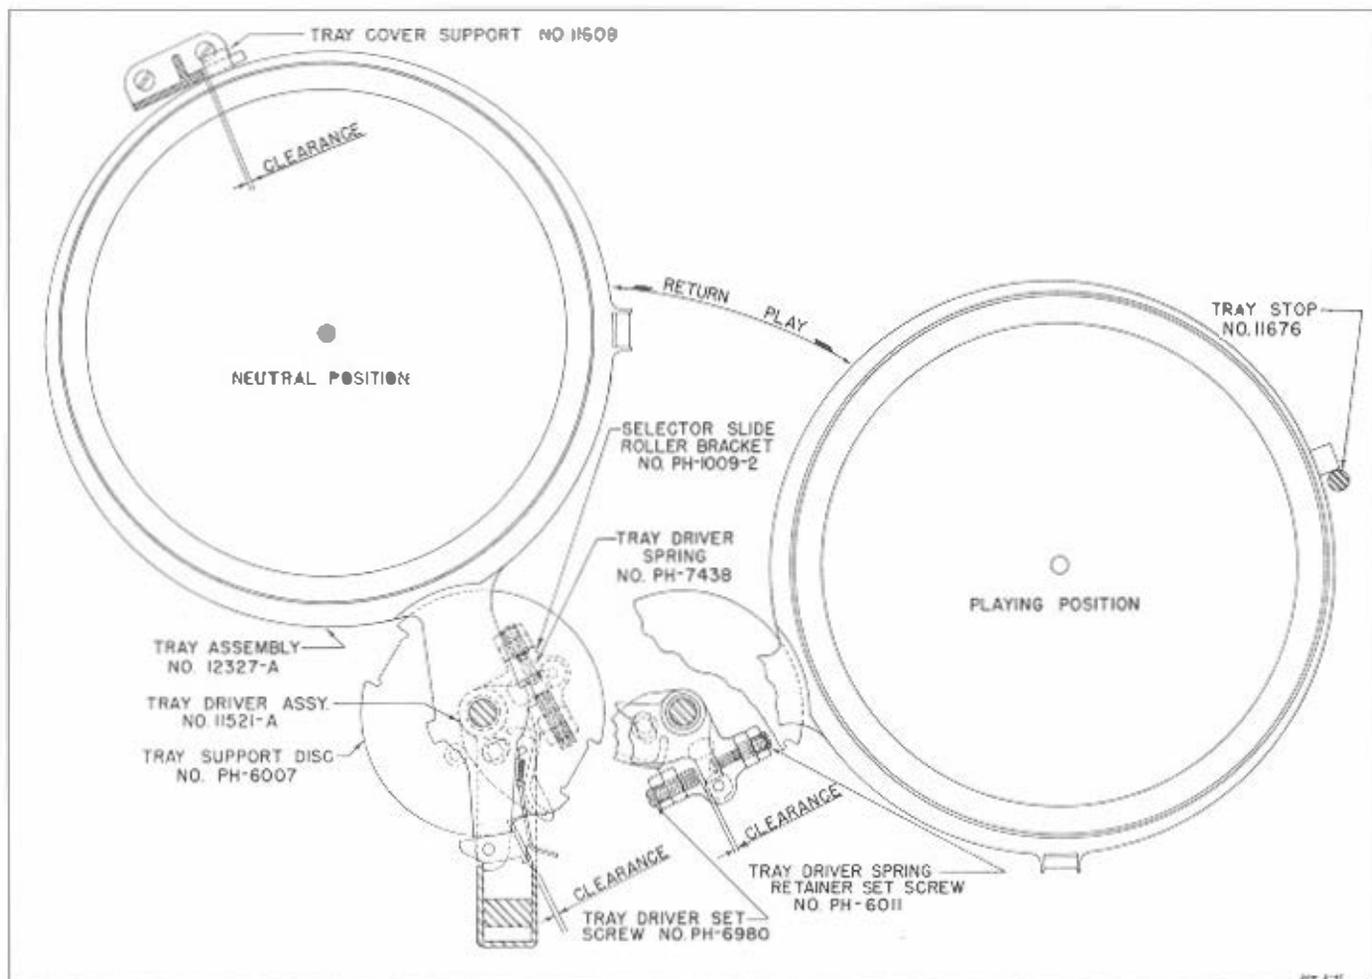

Fig. 19—Tray Stack and Driver (Schematic Drawing)
The record tray and record are moved from the tray stack position to the turntable position, first by the tray unlocking cam contacting the tray dog, which unlatches the tray from tray supporting disc and places the driving lug of the tray dog in the path of the tray release. When the tray driver starts revolving from the action of the selector cam, the tray and record will be brought over to playing position against tray stop No. 11676 (Fig. 19), which is mounted on the mechanism chassis.
The separate unit on the bottom of the tray driver, drives the selected tray and record under the action of the tray driver spring No. PH-7438 (Fig. 19). This spring compensates for any over travel at tray stop position and holds tray assembly in playing position against tray stop under compression action of the tray driver spring.
On the return stroke the separate unit on the bottom of the tray driver, returns the tray to its original position by positive action of the tray driver set screw No. PH-6980 (Fig. 19).
- (a) When the tray and records are in the tray stack position tray driver set screw No. PH-6980 should be adjusted so that there would be a minimum clearance of $\frac{1}{32}$ " between tray assembly and tray cover support as shown in (Fig. 19). When phonograph mechanism is in normal operation the momentum or fast action of the tray closing will tend to bring the tray assembly snug against the tray cover support. Under no circumstances should tray driver set screw be adjusted so
that the tray assembly would be forced against the tray cover support. For if this should be done there would be a bind on the cam roller No. PH-1196 (Fig. 19). The tray release would not seat properly due to a binding action, and the stroke of the tray driver would be shortened effecting bringing tray to playing position.
- (b) The tray dog should be seated in a locking position with a minimum clearance of $\frac{1}{32}$ " to $\frac{1}{16}$ " between tray dog locking notch in tray supporting disc (Fig. 19). It is very important that this adjustment is properly made for when the tray driver is returning the tray assembly to the stack should the tray dog No. PH-6004 fail to drop in the locking notch of the tray support disc on the following operation of the phonograph this tray together with the tray selected would be brought over the turntable position and a jam would occur.
- (c) When tray and record are in playing position against tray stop under spring action, the tray driver set screw No. PH-6980 should have a definite clearance between screw and tray driver as shown in (Fig. 19).
Check tray stop No. 11676 (Fig. 19) which should be perfectly square with chassis base. If the stop should be bent away from the tray stack, this will effect the tray driver stroke. The tray release No. 11502 (Fig. 19) should be a snug fit on the tray driver. If there should be excessive play between the tray release and the tray driver (this would cause tray driver stroke to be short) squeeze tray release together with the tray driver in place in a vise.
The tray driver set screw No. PH-6011 (Fig. 19) is not an adjusting screw, but a means of holding the tray driver spring in place. The face of the tray driver set screw contacting the spring should be flush with the casting as shown in (Fig. 19). If the screw should be screwed in too far in the casting the space for the spring to work in would be too short for the spring to function properly. If the spring becomes too weak replace it.